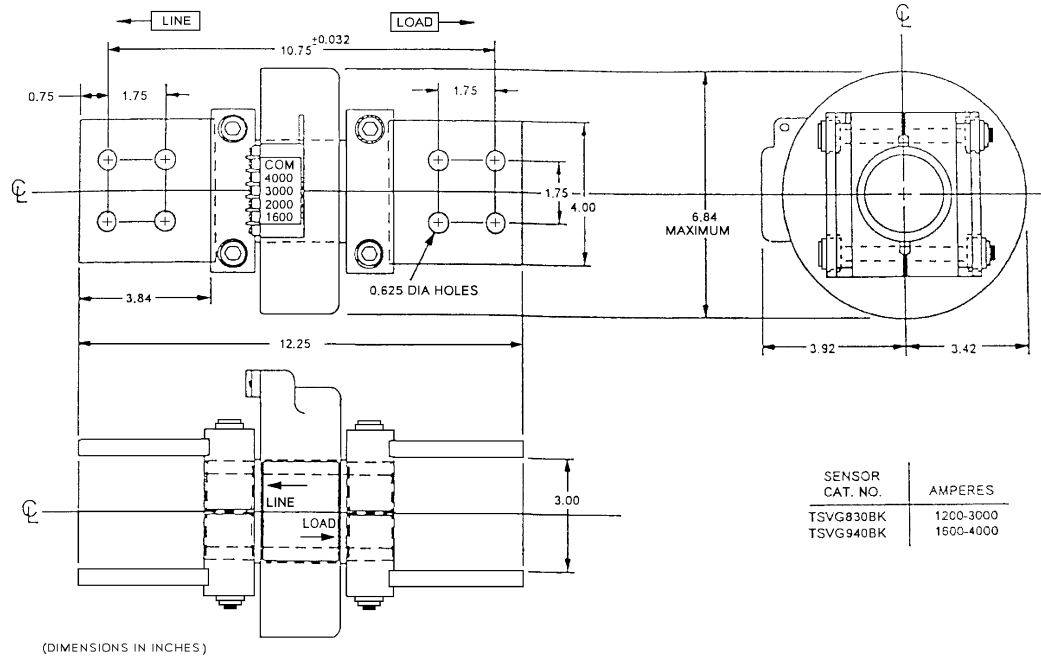

Figure 14. Neutral sensor outline for a DB-75 or DB-100 breaker.
1. Mount the neutral sensor on the outgoing neutral lead, normally in the bus or cable compartment in the equipment. Figure 14 shows the outline of the neutral sensor for a DB-75 or DB-100 breaker.